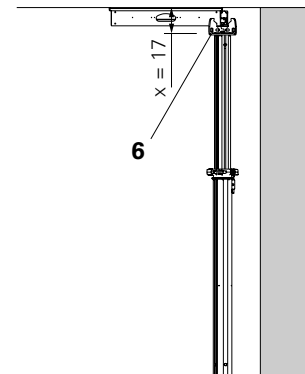

Fig. A2.07
1. Adjust the extension lengths of the props. Clear room height minus dimension x . (Fig. A2.07).